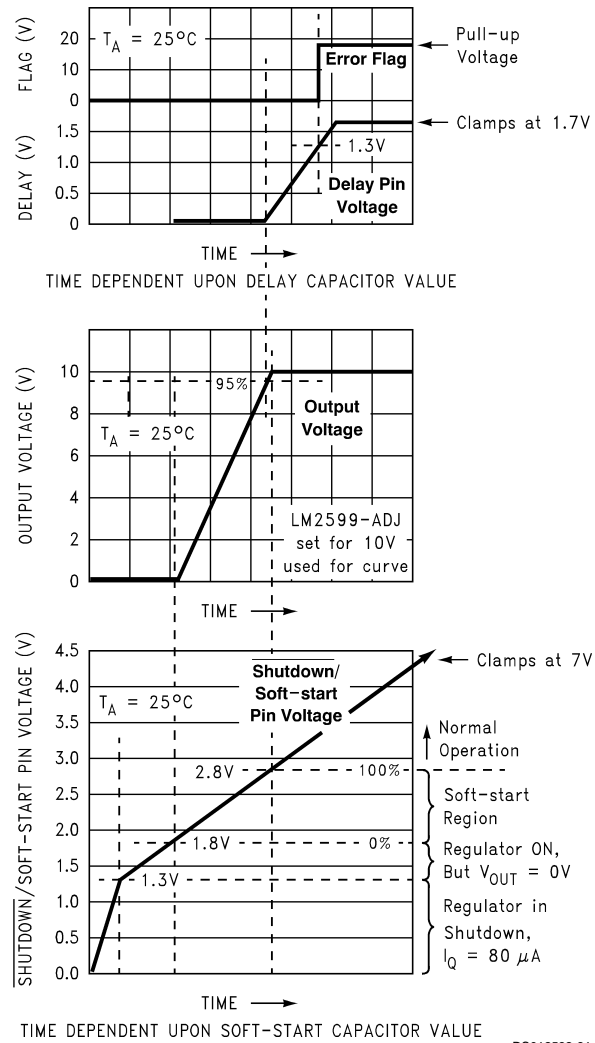
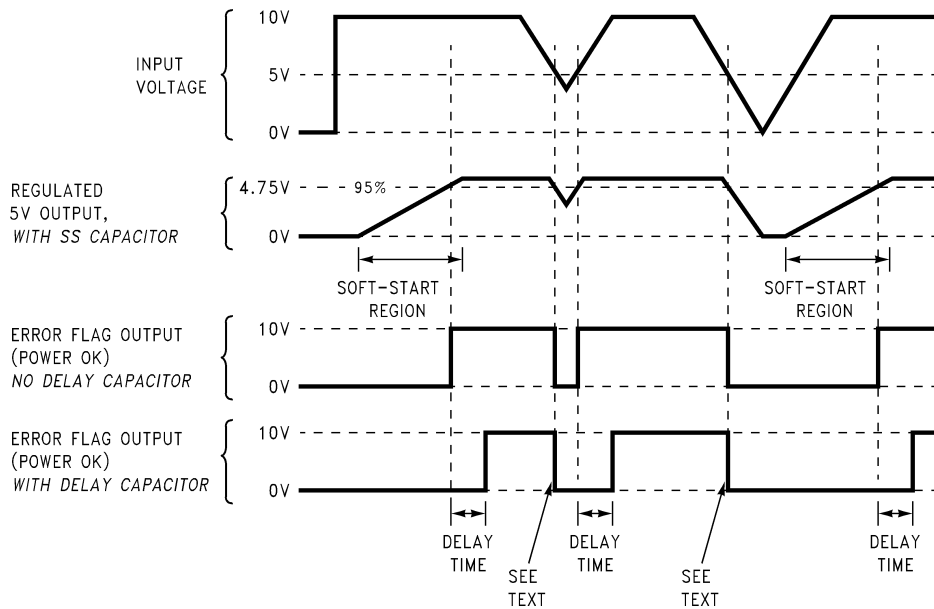

FIGURE 13. Soft-start, Delay, Error, Output
FIGURE 14. Timing Diagram for 5V Output
C_{SS} — A capacitor on this pin provides the regulator with a Soft-start feature (slow start-up). When the DC input voltage is first applied to the regulator, or when the Shutdown /Soft-start pin is allowed to go high, a constant current (approximately $5 \mu A$) begins charging this capacitor). As the capacitor voltage rises, the regulator goes through four operating regions (See the bottom curve in Figure 13).
3. Soft-start Region. When the \overline{SD} /SS pin voltage is between 1.8V and 2.8V (@ $25^{\circ}C$), the regulator is in a Soft-start condition. The switch (Pin 2) duty cycle initially starts out very low, with narrow pulses and gradually get wider as the capacitor \overline{SD} /SS pin ramps up towards 2.8V. As the duty cycle increases, the output voltage also increases at a controlled ramp up. See the center curve in Figure 13. The input supply current requirement also starts out at a low level for
Note: The lower curve shown in Figure 13 shows the Soft-start region from 0% to 100%. This is not the duty cycle percentage, but the output voltage percentage. Also, the Soft-start voltage range has a negative temperature coefficient associated with it. See the Soft-start curve in the electrical characteristics section.
C_{DELAY} — Provides delay for the error flag output. See the upper curve in *Figure 13*, and also refer to timing diagrams in *Figure 14*. A capacitor on this pin provides a time delay between the time the regulated output voltage (when it is increasing in value) reaches 95% of the nominal output voltage, and the time the error flag output goes high. A 3 μA constant current from the delay pin charges the delay capacitor resulting in a voltage ramp. When this voltage reaches a threshold of approximately 1.3V, the open collector error flag output (or power OK) goes high. This signal can be used to indicate that the regulated output has reached the correct voltage and has stabilized.